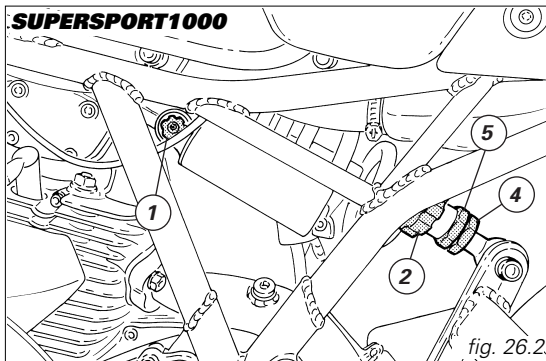

fig. 26.2
- Compression damping adjuster (1, fig. 26.2): 14 clicks.
- Rebound damping adjuster (2, fig. 26.2): 10 clicks.
Undo lock nut (4, fig. 26.2) and nut (5, fig. 26.2) to change original setting.